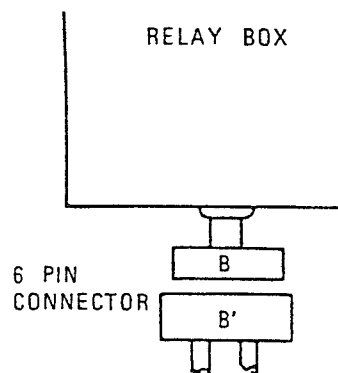

Figure 5-4. Models 6000 and 6001
2. Disconnect connector E and E'. See figure 5-4. All other connectors should be connected.